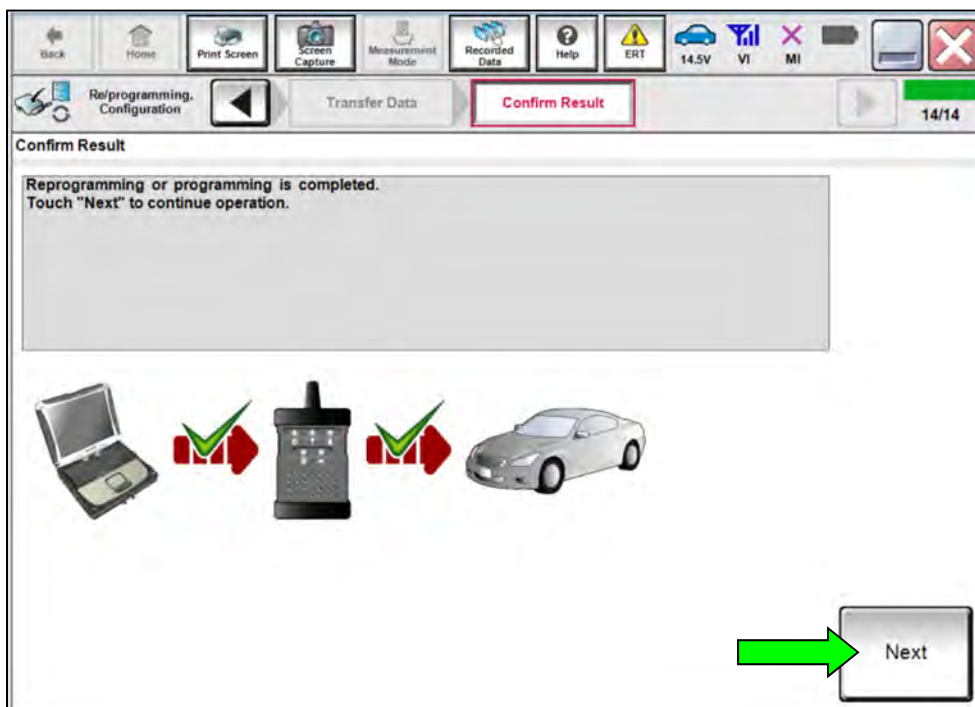

Figure 17
25. Once the screen in Figure 17 displays, the reprogramming is complete. Select **Next**.
- If the screen in Figure 17 does NOT display, indicating that reprogramming did not complete, refer to **Shift Control Unit Recovery** on page 16.